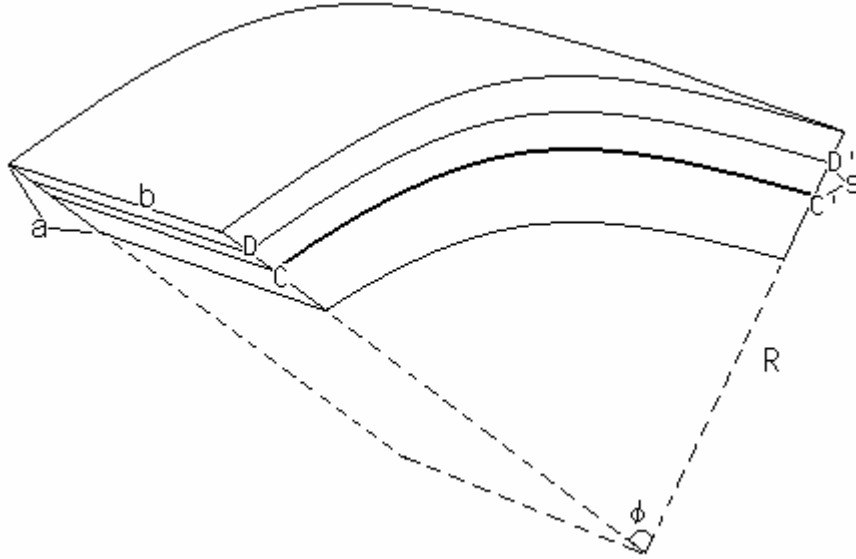

Figure 1. A bending rod (thickness a , width b)
In fig. 1 a rod is being bent. The distance between the stretched layer (DD') and the neutral layer (CC') is denoted with s , the radius of curvature with R and the angle of curvature with ϕ . From the figure it can be seen that the length CC' is $R\phi$ and that of DD' is $(R+s)\phi$. The relative stretching of DD' compared to CC' is thus $s\phi/R\phi = s/R$. Hooke's law gives now
- How much does a metal rod, suspended from two points, bend, if the middle point is loaded with 1,0 kg. The distance between suspension points is 0,50 m and the cross section is of rectangular shape ($b = 1,0$ cm and $a = 0,50$ cm, see figure 1). Compute the displacement of the middle point for aluminium and steel rods.